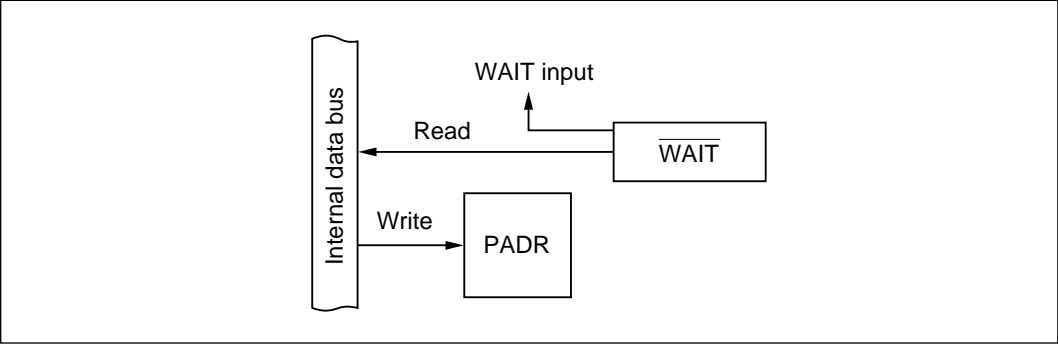

Figure 10-67 $\overline{\text{WAIT}}$ Input Pin (Modes 1 to 6)
(5) $\overline{\text{WAIT}}$ Pin (PA_4 : Modes 1 to 6): Figure 10-67 shows a block diagram illustrating the $\overline{\text{WAIT}}$ function. Table 10-51 indicates register read/write data. When PA_6 is used for $\overline{\text{WAIT}}$ input, the value written in the port A data register (PADR) has no effect.